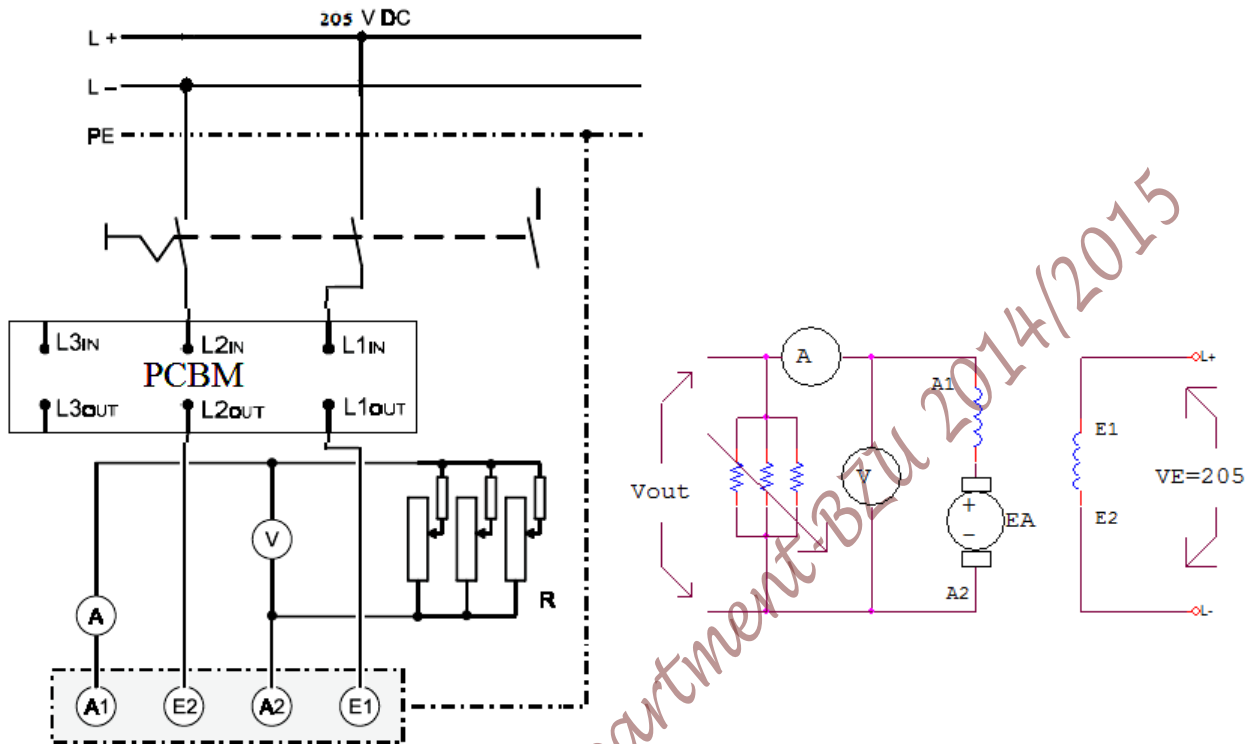

Figure 10.3: Separately Excited Shunt Wound generator circuit for recording load characteristics
1. Change the circuit connections to match Figure 10.3